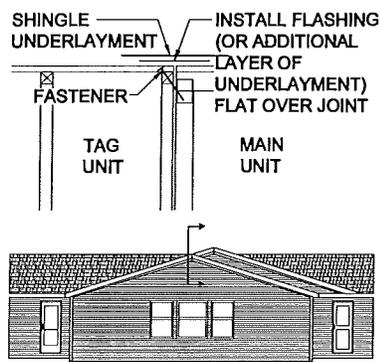
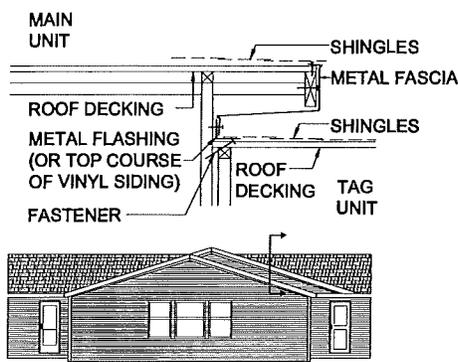

Figure 23. Tag unit flush roof connection
Figure 24. Tag unit offset roof connection
- Connect roofs.** Connect the tag unit roof to the main unit roof using #10 x 4" screws at 12" on-center (8" on-center in Wind Zone 3) or #8 x 4" screws at 8" on-center (5" on-center in Wind Zone 3) toe screwed through tag unit end truss top chord into each main unit dormer vertical structural member location (stud or truss). If full depth ridgebeam headers must be connected refer to **Connect Roofs**. See **Figure 23** for flush roof connections and **Figure 24** for roof connections with an offset greater than two inches. Roof connections with an offset less than two inches do not require screws.